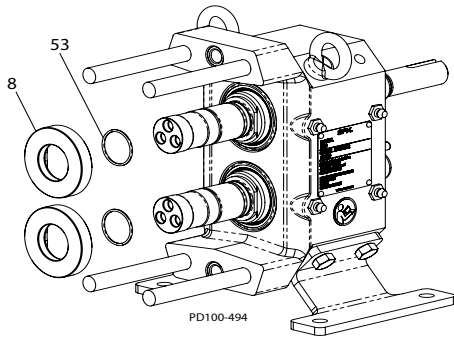

Figure 52 - Shaft Seal Installation
1. Install the seat o-rings (Figure 52, item 53) into the rear groove in the shaft.
2. Apply a compatible lubricant to the o-rings and install the seal seats (Figure 52, item 8). Align the flats in the seal seats with the flats on the shafts and seat them firmly against the shaft shoulder.